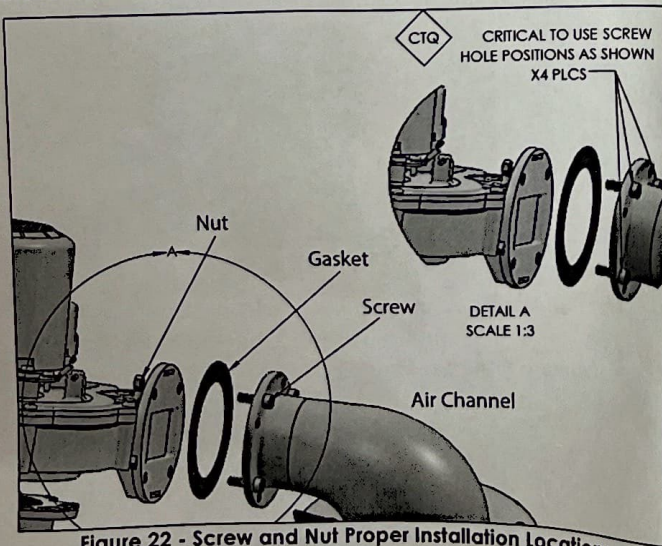

Figure 22 - Screw and Nut Proper Installation Locations
Step #2 - Use a 4mm allen wrench and the four (4) sockethead cap screws and nuts to install the blower and polidoro mixer assembly to the air channel. Ensure the blower gasket is installed between the air channel and the blower. Failure to do so will result in improper appliance operation. See Figure 22.
NOTE: Pay careful attention to combustion assembly orientation. The combustion assembly must be installed as oriented in Figure 22.